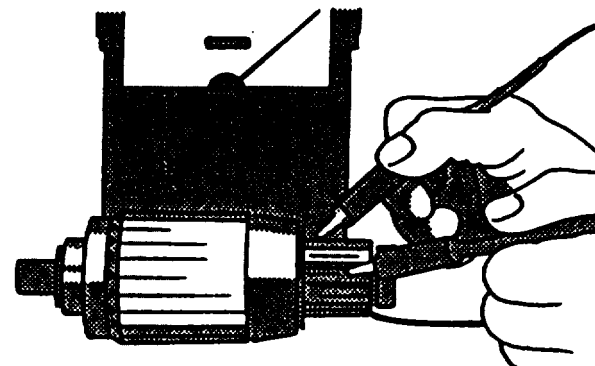

FIGURE 3-20. Checking for Open Circuit Windings
- c. Set multimeter for ohms and touch probes to two segments, refer to FIGURE 3-20. There should be continuity at any point. If there is no continuity, winding is open circuited. Replace the armature if open circuited.